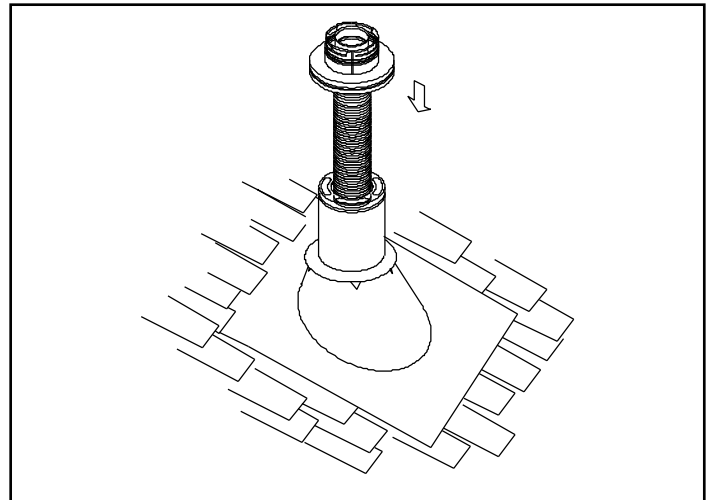
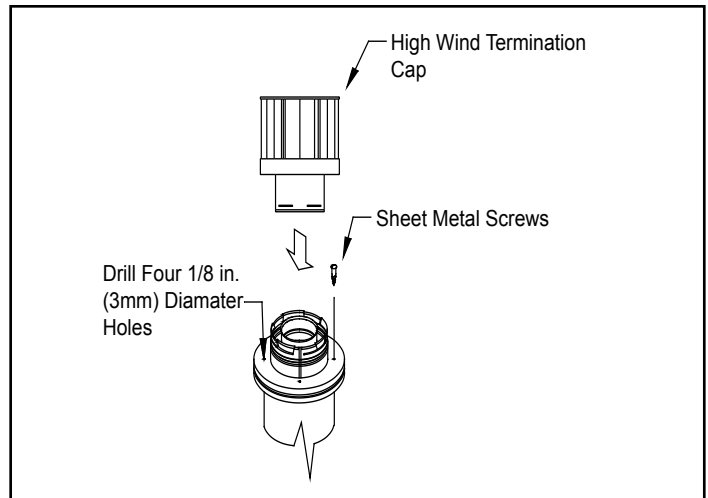

Figure 4.22
Figure 4.23
4. Pass the flex pipe down through the center of the chimney system, and center the top adapter on the top of the chimney pipe. Drill four 1/8 in. (3mm) diameter holes through the top adapter, and into the chimney top. Ensure that you are drilling into the metal on the chimney. Twist lock the high wind termination cap onto the top adapter. See Figure 4.22 and Figure 4.23.